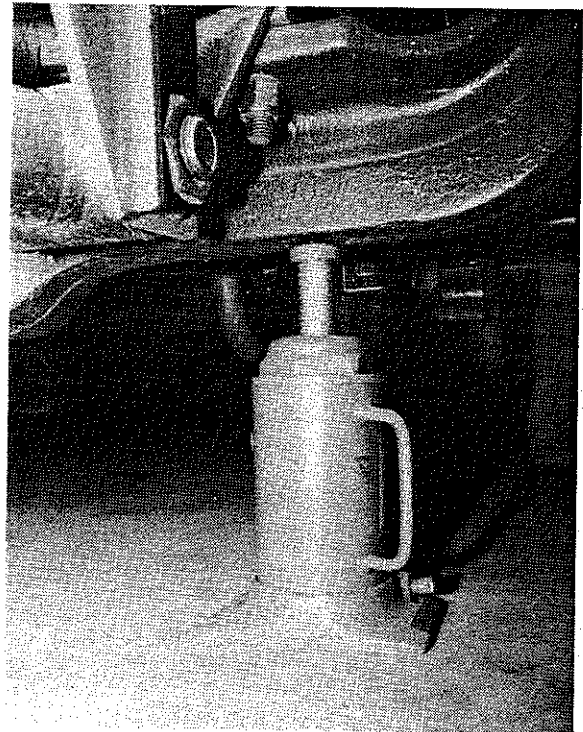

Figure 8-1. Locating Jack
6. Place jack under axle and raise slightly until securely in place. See figure 8-1 for location of typical jacking point.